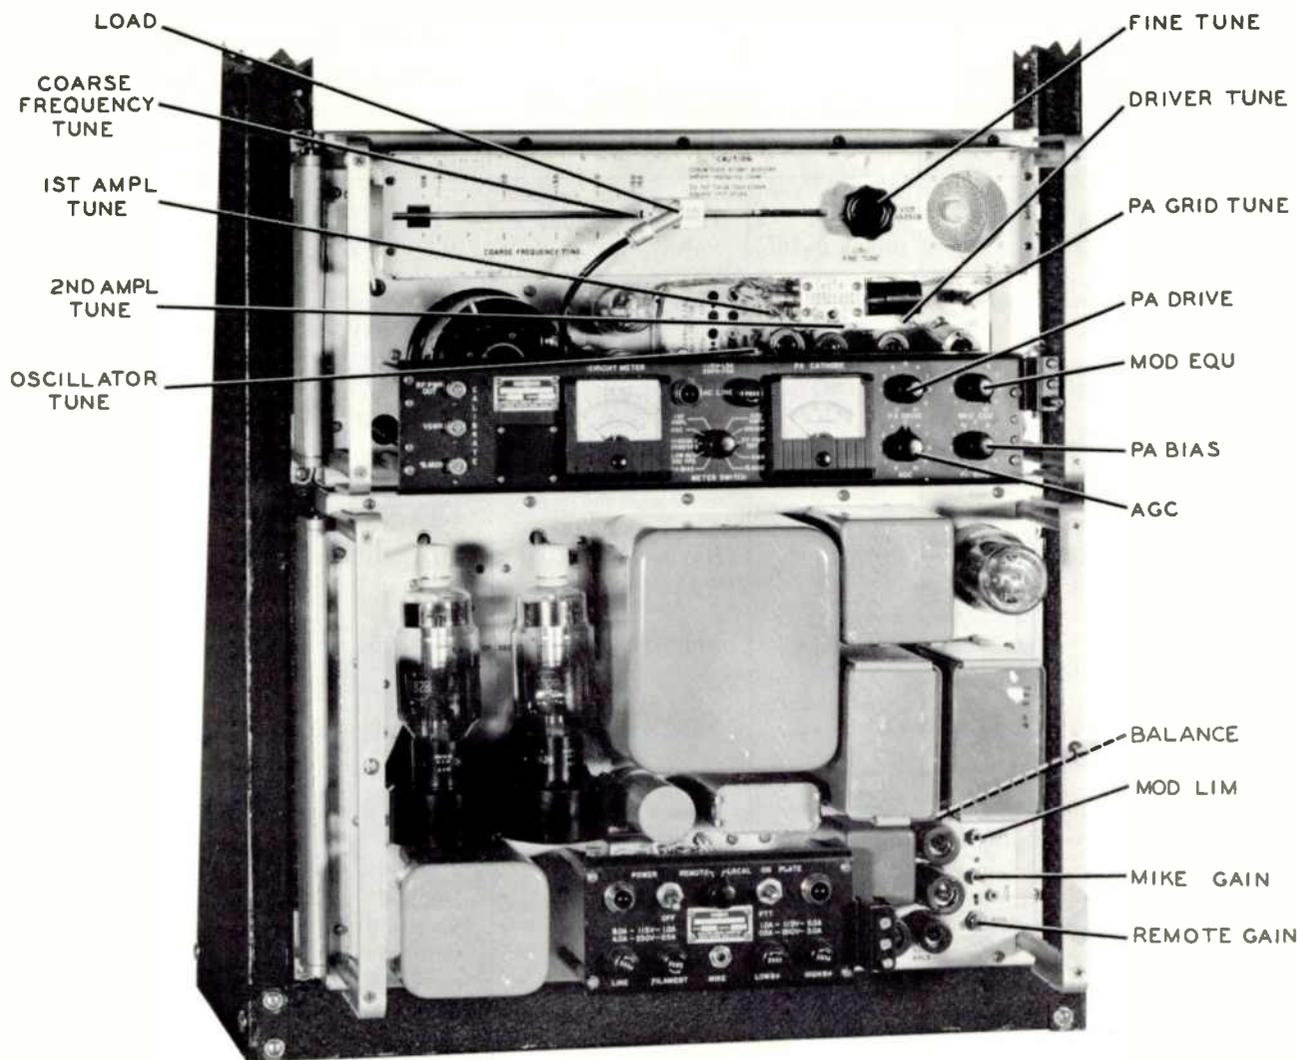

Figure 2-8. Tuning and Adjustment Controls
o. Adjust COARSE FREQUENCY TUNE, shorting plate in cavity to approximate frequency on cover scale (see figure 2-8). Turn METER SWITCH to RF PWR OUT position, and adjust FINE TUNE control on the output cavity for a peak indication on the CIRCUIT METER. If no peak is found, readjust COARSE FREQUENCY TUNE shorting plate in the cavity, and peak the output with the FINE TUNE control. Peak the power output with the LOAD control slider. Adjust the
q. Adjust (COARSE FREQUENCY TUNE) by sliding the cavity shorting plate (see figure 2-8) to approximate frequency on cover scale. Keep the LOAD control slider within two inches of the shorting plate at all times to prevent damage to the LOAD control slider contact. Turn METER SWITCH to RF PWR OUT position, and adjust the FINE TUNE control on the PA cavity for a peak indication on the CIRCUIT METER. If no peak is found, readjust COARSE FREQUENCY TUNE shorting plate until a peak is obtained by tuning the FINE TUNE control.